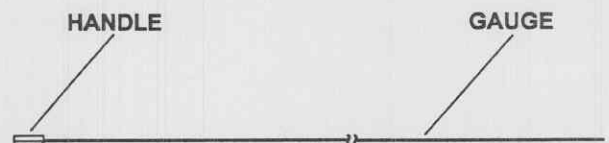

Figure 1-4. Flexible test gauge.
(3) *Flexible test gauge (fig 1-4).* The flexible test gauge is a thin, spiral wire used to test the integrity of the channel. A cylindrical handle is molded onto one end for grasping. The flexible test gauge is stored in a circular plastic housing.